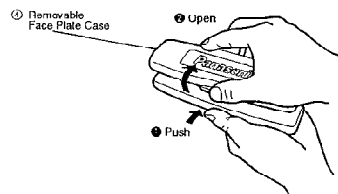

Fig. 3
- ④ As shown in Fig. 3, gently push the lower side of the case and open its cover. Keep the removable face plate in the case. Then, you can bring the plate safely.
- c) Remove the unit pulling with both hands. (Fig. 3)